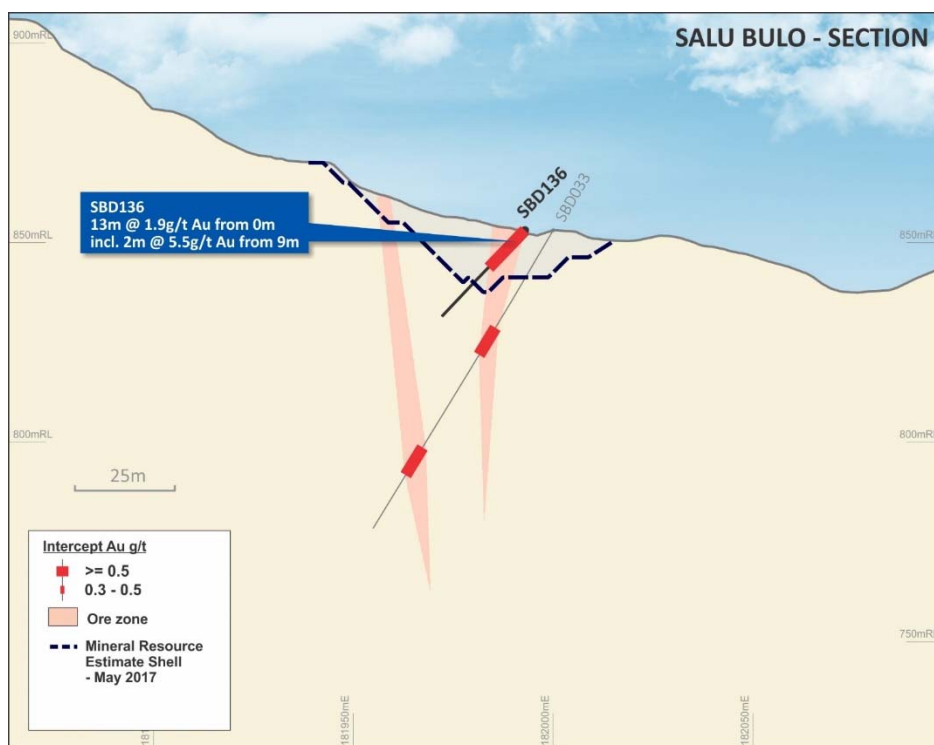

Figure 4: Cross-section of Salu Bulu deposit showing mineralised intersections > 0.3 g/t Au in SBD136.
- SBD138 (Figure 4); **23.2 m at 2.8 g/t Au** from 0.0 m, including **9.5 m at 4.1 g/t Au** from 2.0 m; and